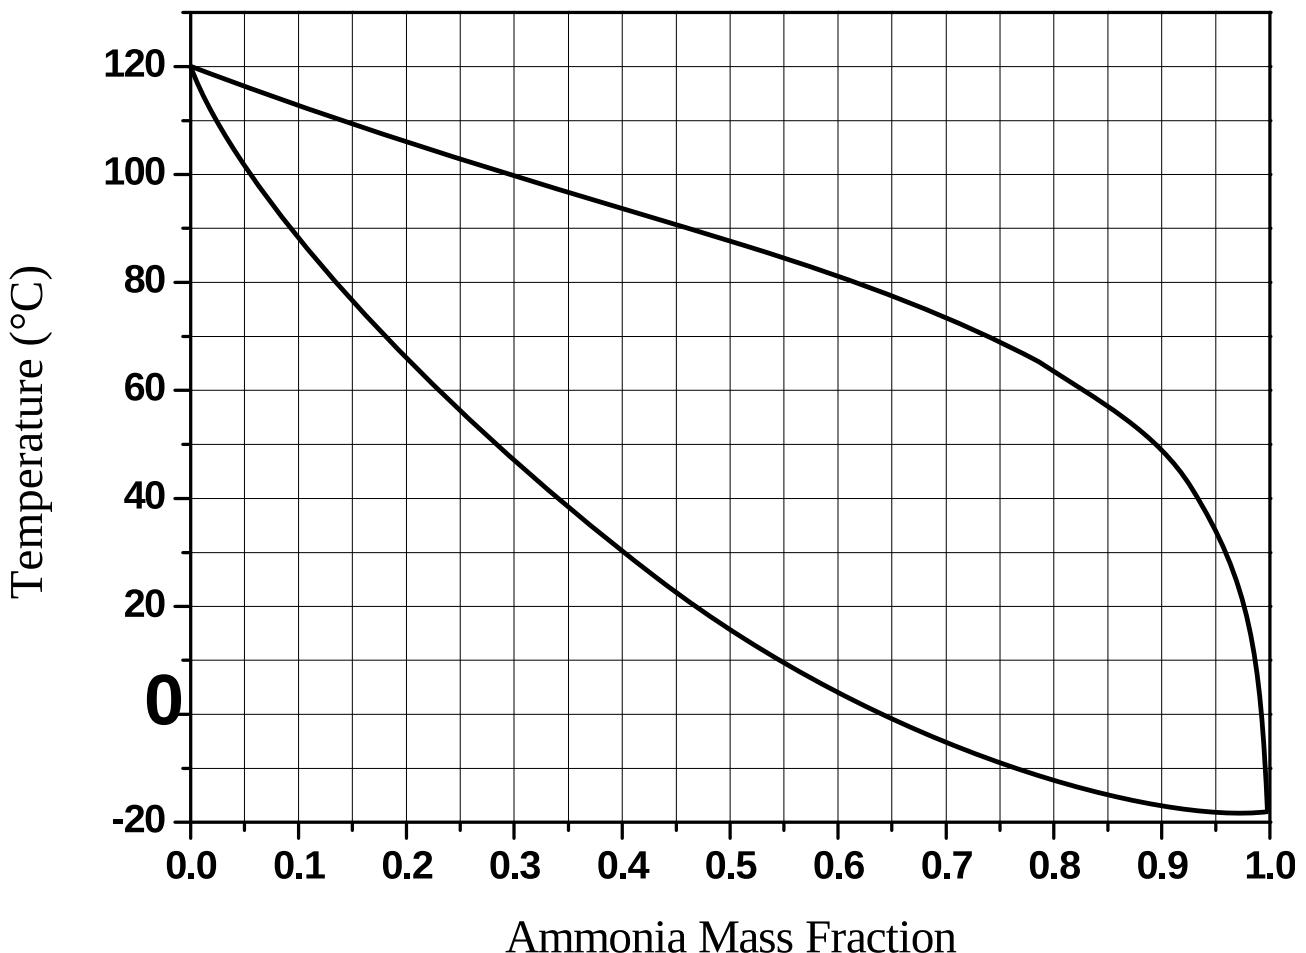
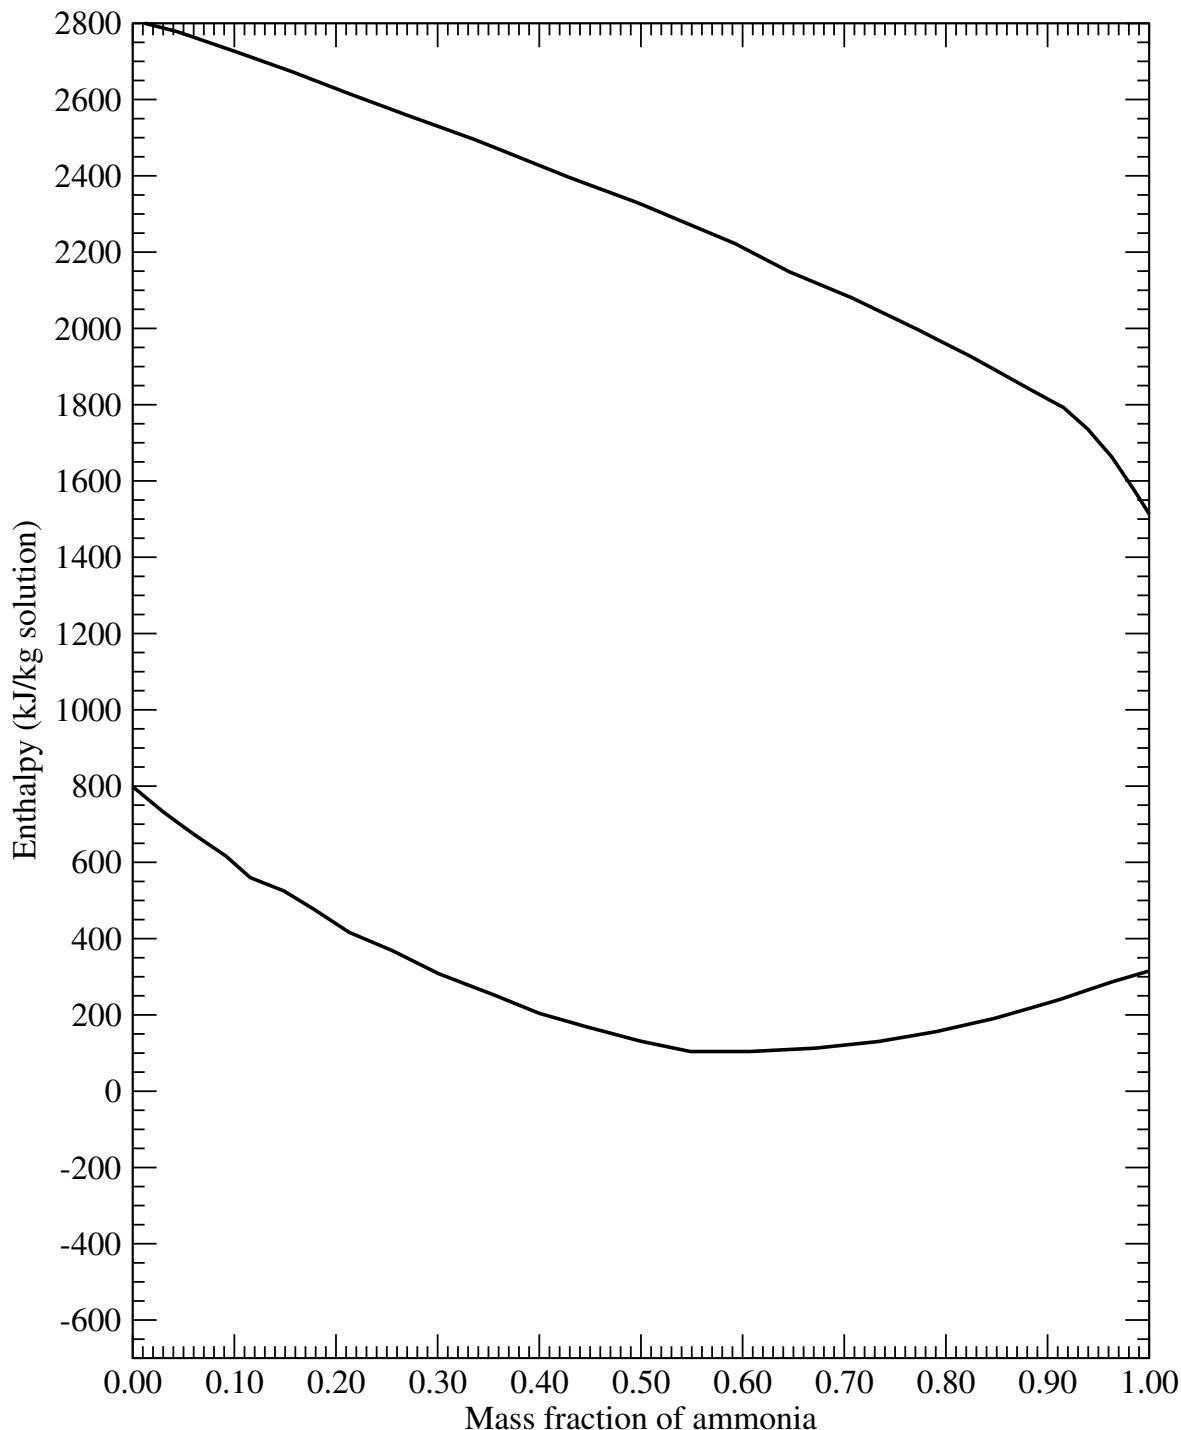

Figure 43: The  $T$ - $xy$  diagram for a ammonia-water mixture at atmospheric pressure. For use in Q. 39.
Figure 44: The enthalpy-concentration diagram for a ammonia-water mixture at atmospheric pressure. For use in Q. 39.
*T-xy* data is available in Fig. 43 and enthalpy-concentration data in Fig. 44.